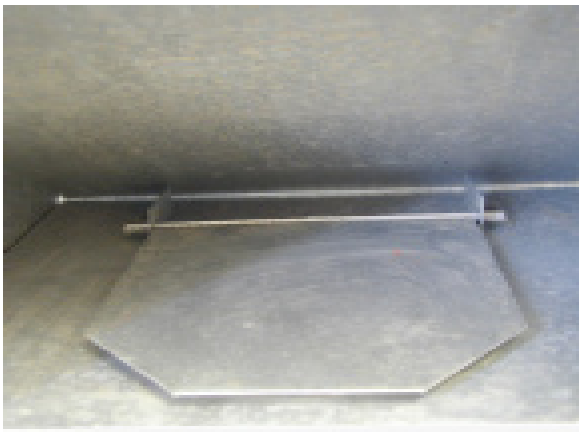

Fig. 11A Properly closed backdraft flapper
4. To access the time delay relay, unplug powervent and remove the electrical box cover on power vent motor. (Fig. 11A)
3. Inspect for proper closure of the back draft flapper accessory. If the flapper does not properly close, there is a risk of freezing air coming across the heat exchanger which may cause the pipes inside to freeze and burst. This condition is not covered by the water heater warranty. See Fig. 11A for a properly closed back-draft flapper.